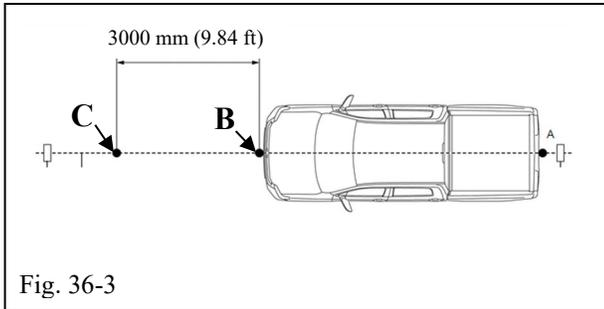
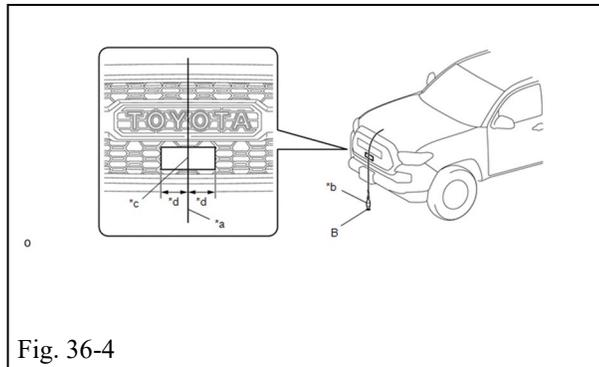

Fig. 36-3
Fig. 36-4
- (g) Place SST (reflector) at point C (Fig. 36-3), at a position 3000 mm (9.84 ft.) from point B. (Fig. 36-4)
Follow process for grille ‘Type C’. (Fig. 36-4)